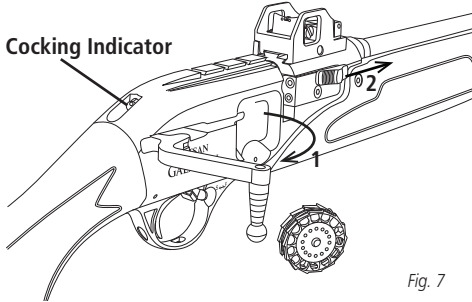
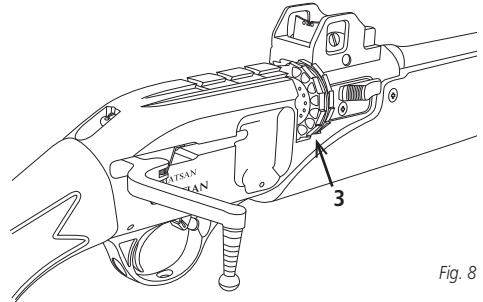

Fig. 7
Fig. 8
3. To fit the magazine on the air rifle; pull the cocking handle backwards and lock it in the rear. (Fig. 7). Here you will notice the red ring around the cocking indicator becomes visible, which shows the air rifle is cocked.
4. Push forward the magazine release bolt and lock it there. Insert the magazine into its slot the right. (Fig. 7 & Fig. 8)